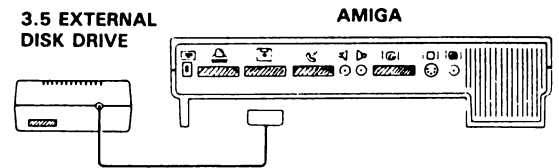

Fig. 2-2. Rear Connectors
2.2.2 Disconnect the 3.5" external drive cable from the rear of the computer. See Fig. 2-2.